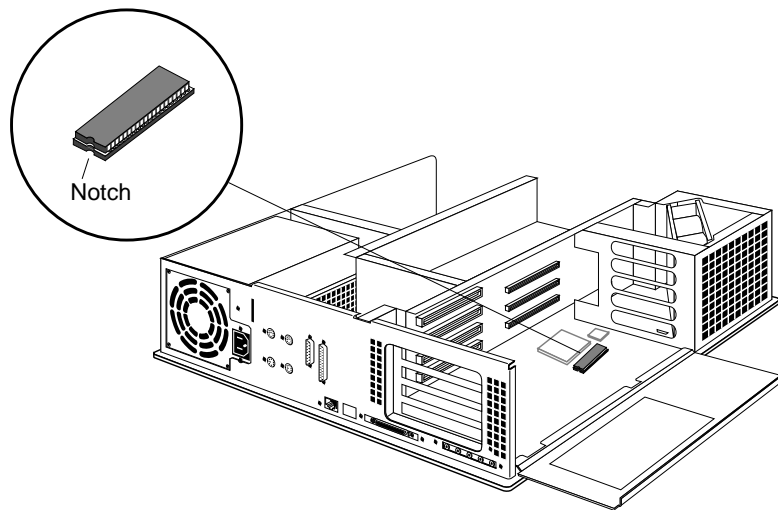

Figure 2-20 Locating the PROM Chip on the System Board
1. Locate the PROM chip. The PROM chip is located in a socket on the system board below the slot from which you removed the graphics board, as shown in Figure 2-20.
2. Before removing the PROM chip, familiarize yourself with it. Note that it has either a semi-circular notch or a small, indented circle at one end, as shown in Figure 2-20. You'll use this notch or circle to orient the PROM when you install it.